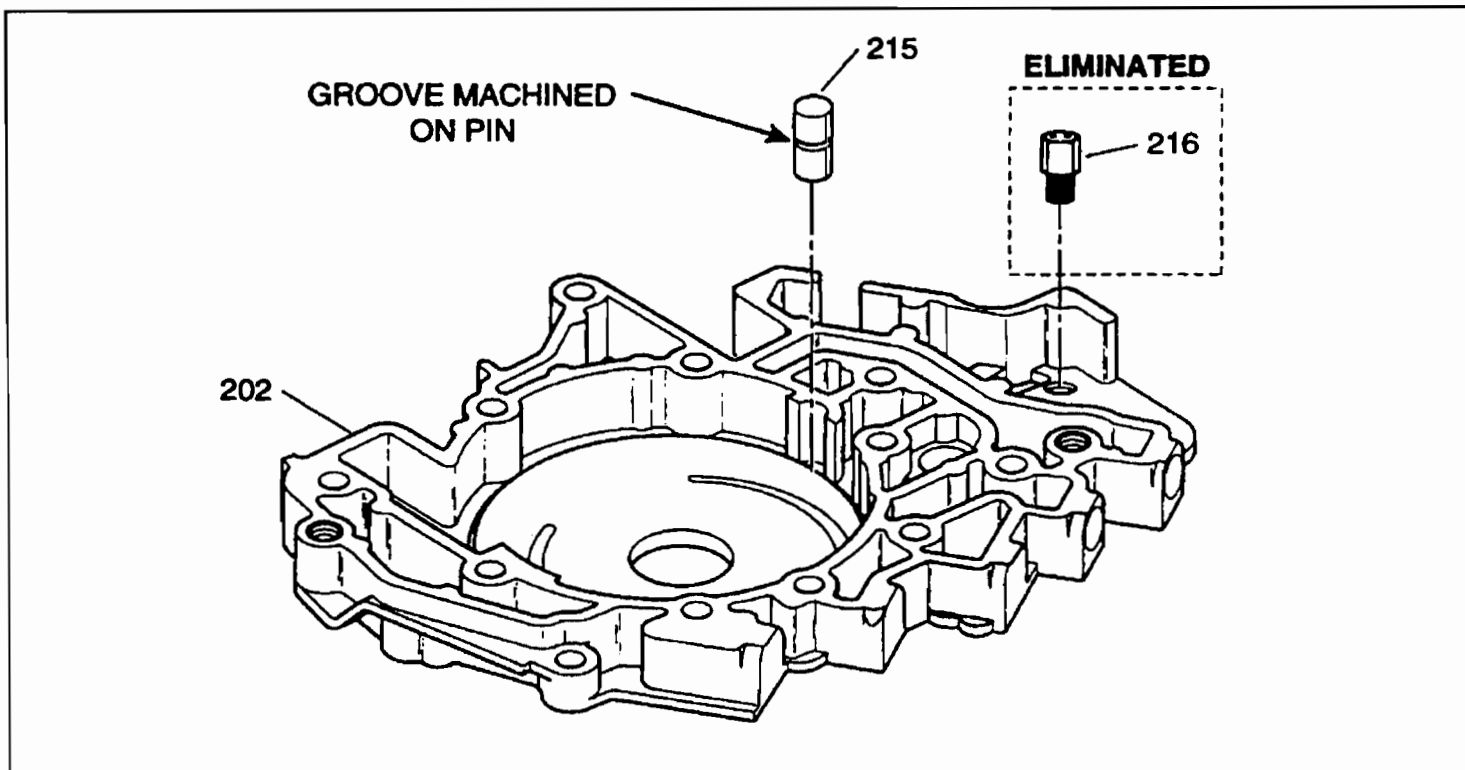

Figure 68
- (1) OIL PUMP PIVOT PIN - Now has a groove machined around the diameter of the pivot pin to establish the air bleed in the decrease oil circuit, as shown in Figure 68.
- (2) PUMP CASTING - The threaded brass air bleed plug that screwed into the pump casting has been eliminated, as shown in Figure 68. This hole is now cast shut.
- (1) When servicing models WITH the brass air bleed plug, the SOLID pivot pin MUST be used.
- (2) When servicing models WITHOUT the brass air bleed plug, the GROOVED pivot pin MUST be used (See Figure 68).